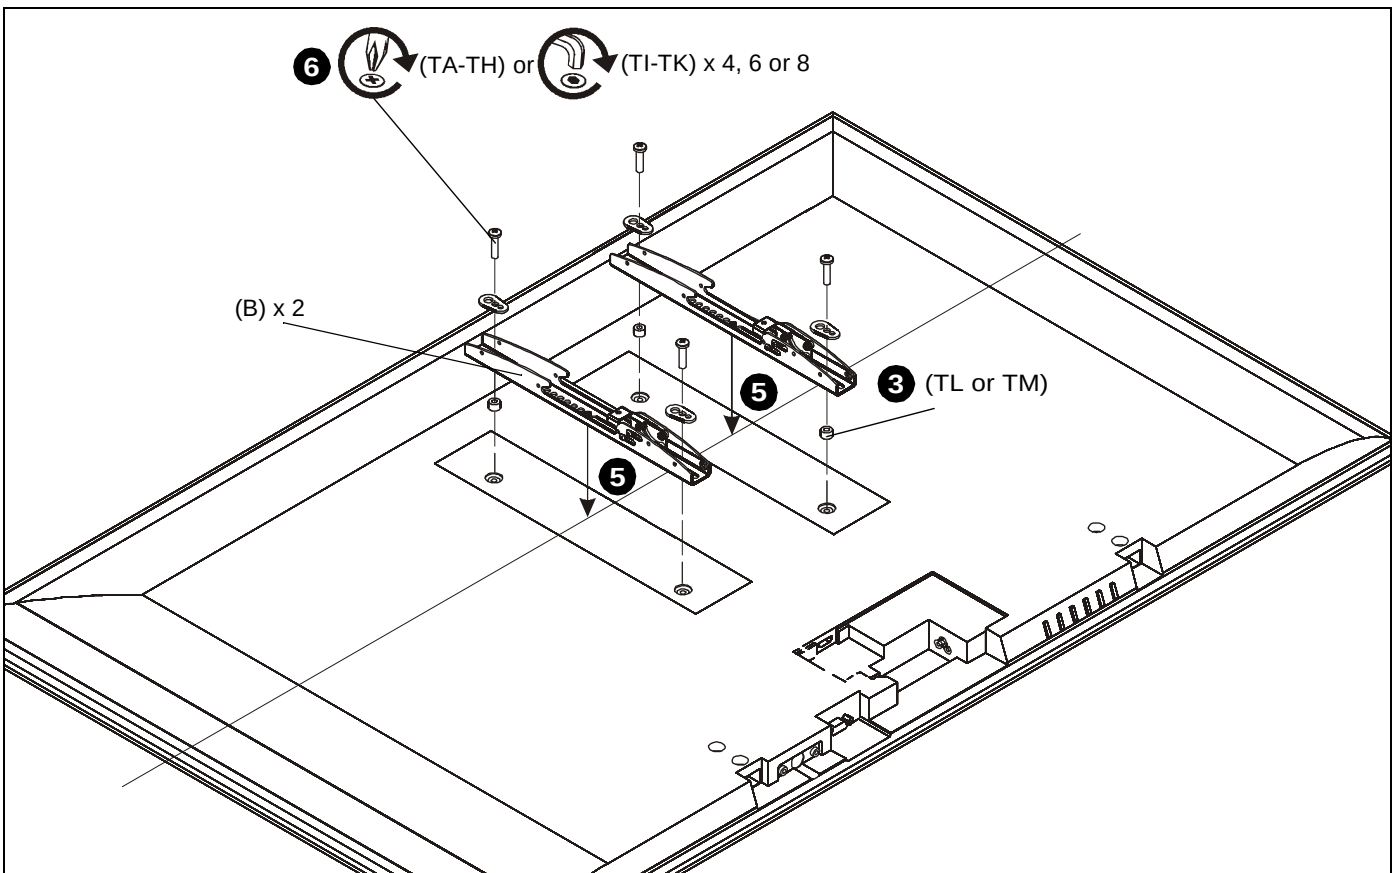

Figure 7
2. Select screw *diameter* by examining hardware (TA-TK) (4mm, 5mm, 6mm or 8mm) and comparing with mounting holes on display. (See Figure 7)
3. Select spacers: (See Figure 7)
- If mounting holes are not recessed and both uprights (B) can lay flat against display, then no spacers are required.
- If mounting holes are recessed, or if protrusions prevent uprights (B) from laying flat, then spacers (TL or TM) must be used.
4. Select screw *length*: (See Figure 7)
- Using your hand, insert **SHORTEST** length screw of selected diameter (TA, TD, TG or TI) through universal washer (TN), uprights (B), selected spacer (TL or TM), into display mounting hole. Do NOT thread screw into hole at this time.
5. Place uprights (B) on display, ensuring: (See Figure 7)
- Center of uprights (B) are as close to the center of the back of display as possible after being installed. Center of bracket is indicated by the diamond-shaped hole.
6. Use selected screws and spacers to install two interface uprights (B) to back of display. (See Figure 7)